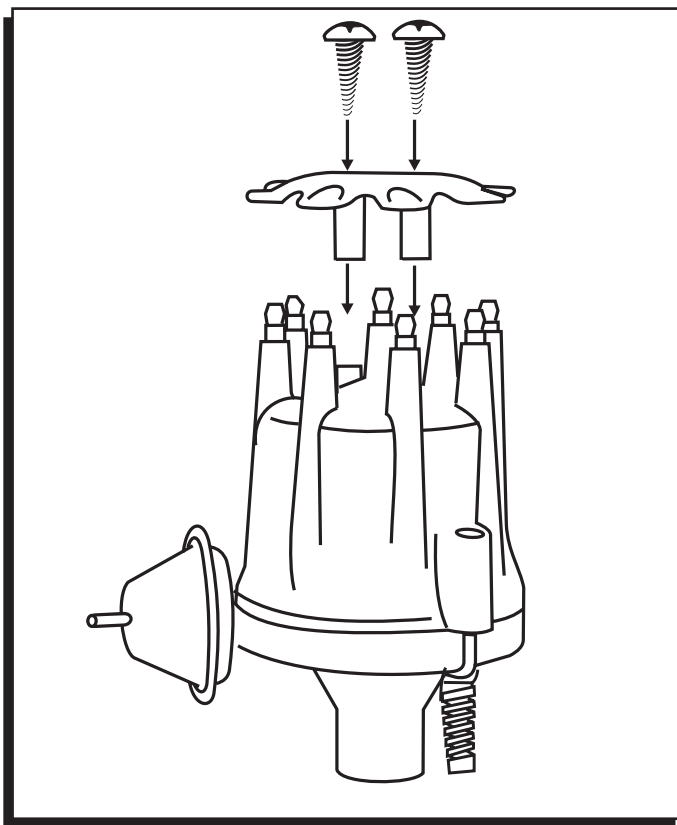

Figure 9 Installing the Wire Retainer.
10. Install the distributor cap and spark plug wires one at a time to ensure correct location. A wire retainer is supplied to secure the wires in place. Align the mounting bosses and use the supplied 1.5" self-tapping Phillips screws to hold the retainer in place (Figure 9).